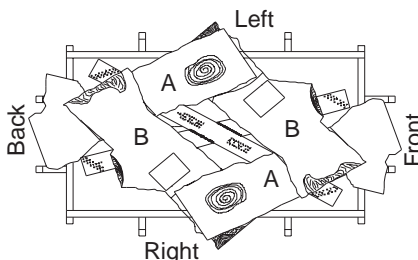

Figure 46 - Installing Logs "B" (Top View)
9. Place logs "B" as shown in Figure 46, page 19. Lift the end of log "A" that will be propped up and place log "B" under it. At the same time, the other side of log "B" is placed over the other log "A". Repeat procedure for the other log "B".